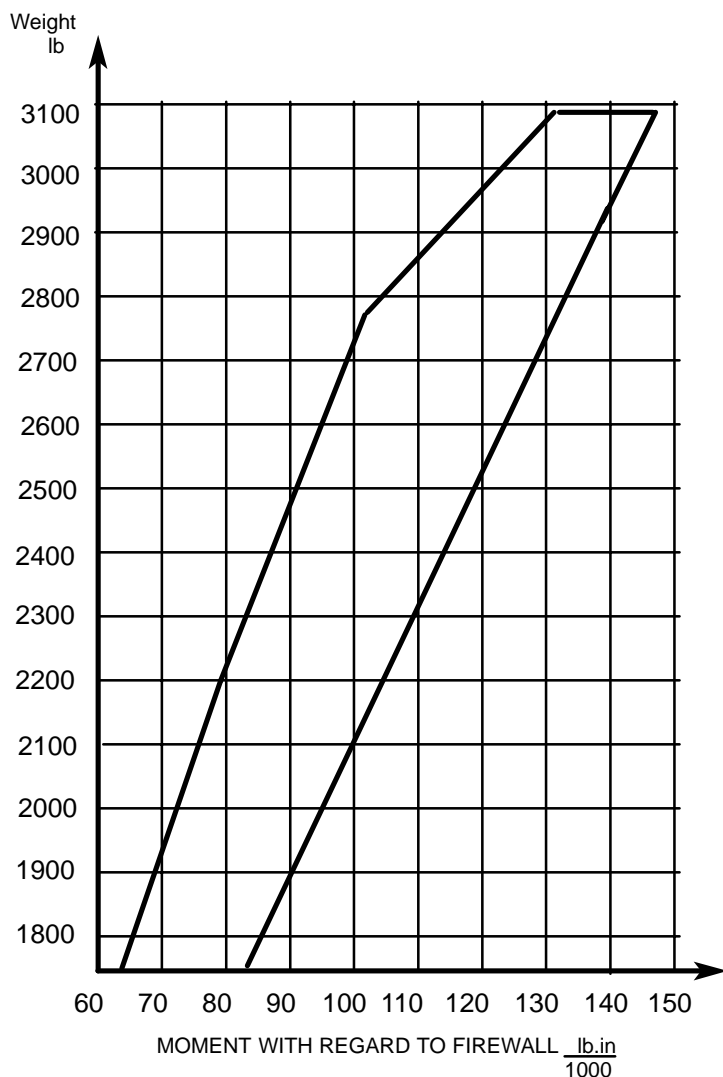

Figure 6.5 – LIMITS WEIGHT / MOMENT
- Weight / Moment envelope : see Figure 6.5
Extract translucent Figure 6.5 from the manual and take a pencil.
- On Figure 6.5, place point A (1) corresponding to your empty airplane [Our sample loading : 1866 lbs (846.5 kg) – 70.64 lb.in / 1000 (813.7 m.kg)]